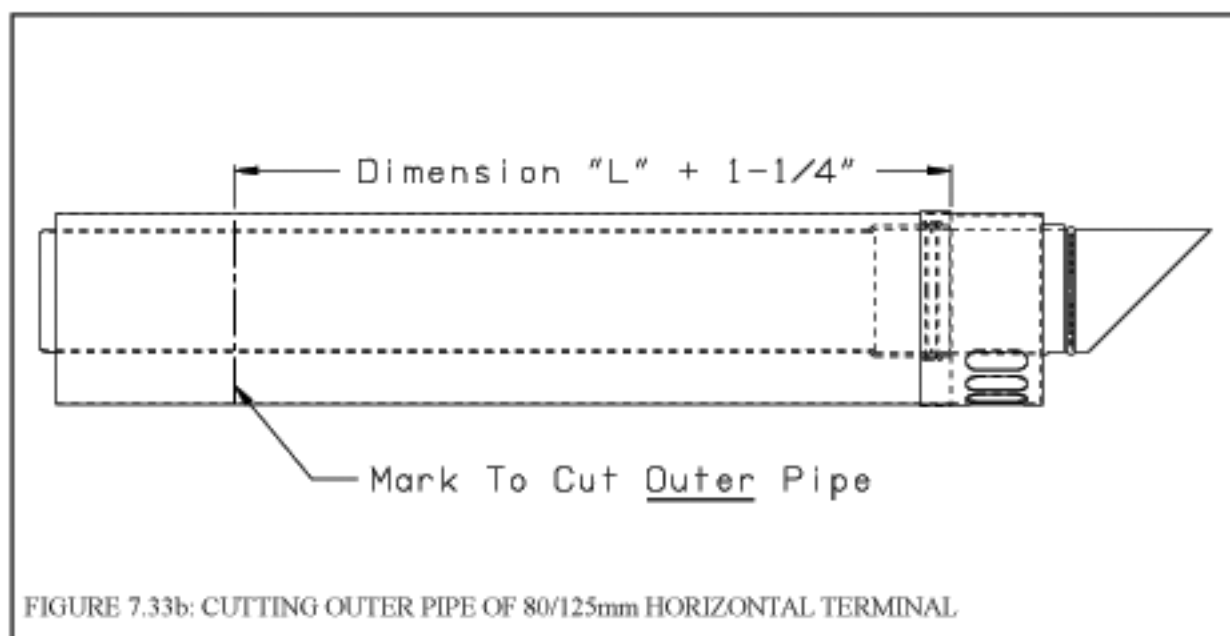

FIGURE 7.33b: CUTTING OUTER PIPE OF 80/125mm HORIZONTAL TERMINAL
- c) Add 1-1/4" to distance "L". Carefully mark this length on the pipe as shown in Figure 7.33b.